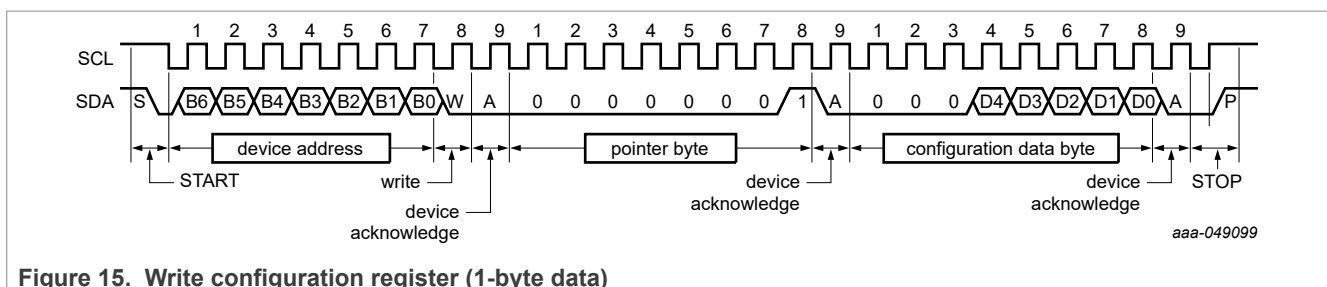
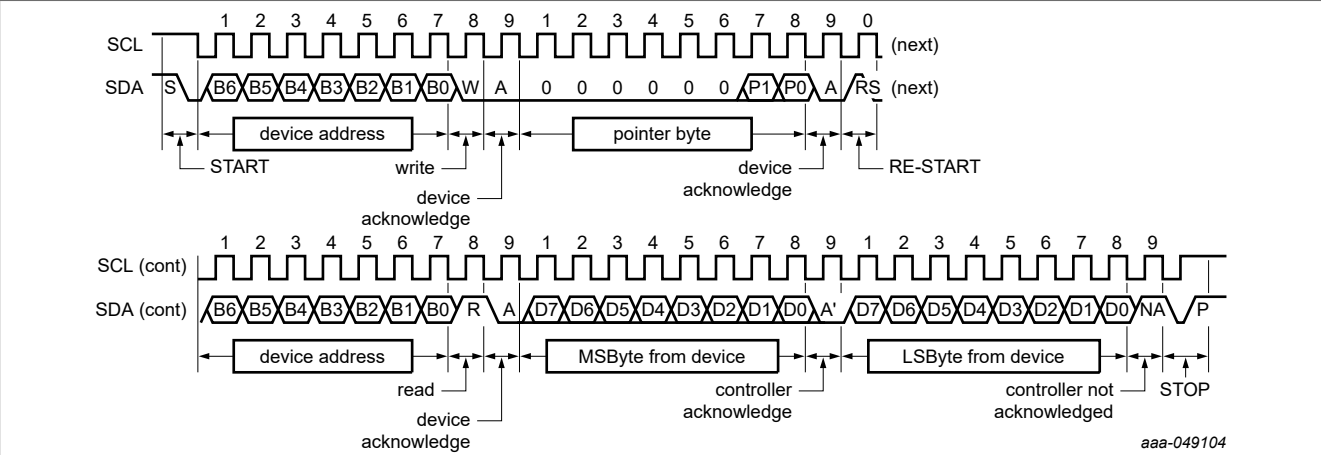
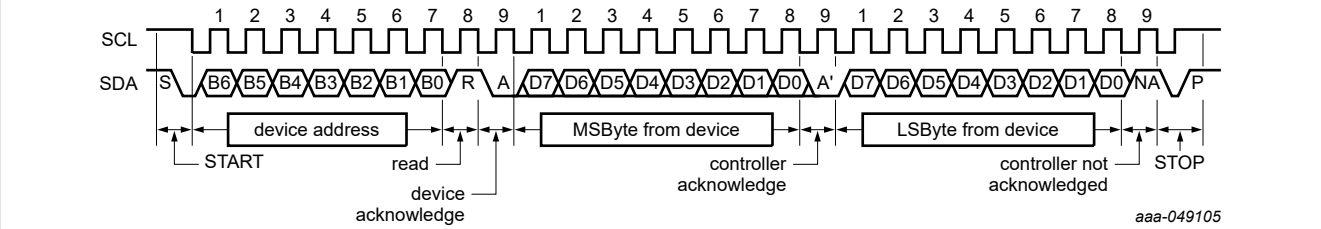

Figure 15. Write configuration register (1-byte data)
Figure 19. Read register including pointer byte (2-byte data)
Figure 20. Read register with preset pointer (2-byte data)
The communication between the host and the device must strictly follow the rules as defined by the I2C-bus management. The protocols for device register read/write operations are illustrated in Figure 15 to Figure 20 together with the following definitions:
14. For best temperature accuracy, both temperature bytes must be read as shown in Figure 19 and Figure 20. But for a quick less accurate check/reduce bus transmission, only one byte, the MSByte, must be read as shown in Figure 20.